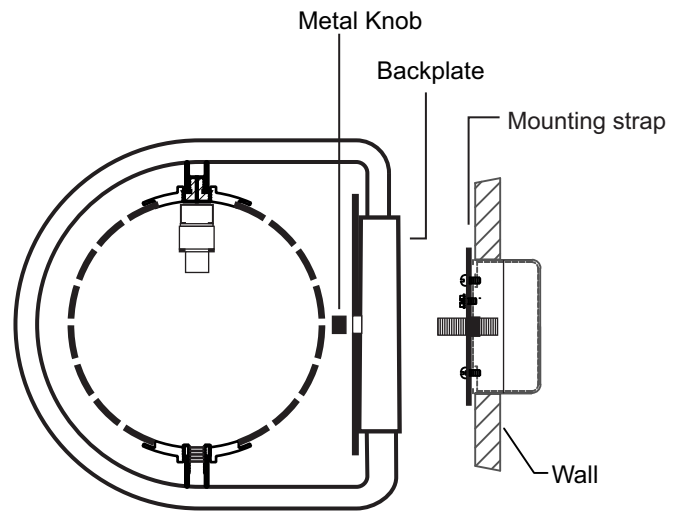

FIGURE-02
5. Attach the fixture to the mounting plate and secure it with the brass knob from the centre. (See Figure-02)